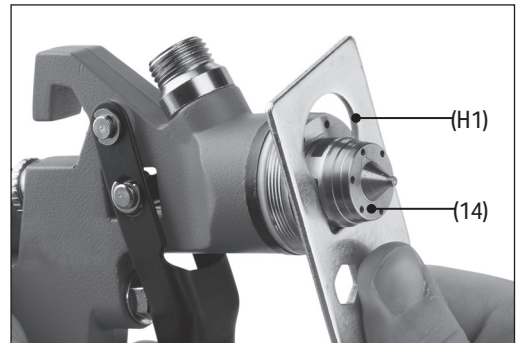

Fig. 3
2. Use the M12 spanner (H1) to unscrew and remove the nozzle head (14) (Fig. 3).